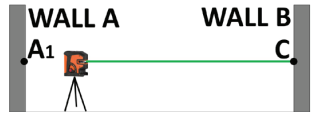

Figure 16
2. Rotate laser 180°. Mark beam height on Wall B as point C. (Figure 16)